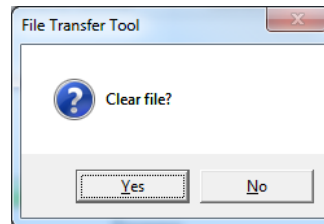

Figure 3-6: Clear file dialog
- After the Alibi or Vehicle Transaction files are read from the terminal, a pop-up message (Figure 3-6) will ask if the files are to be cleared.